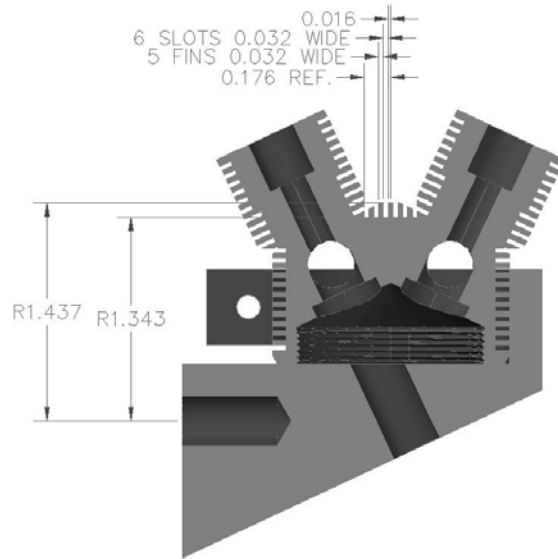

Figure 2
1. In the lathe, setup cylinder head in tool CH2 without any spacers as shown in Figure 2.